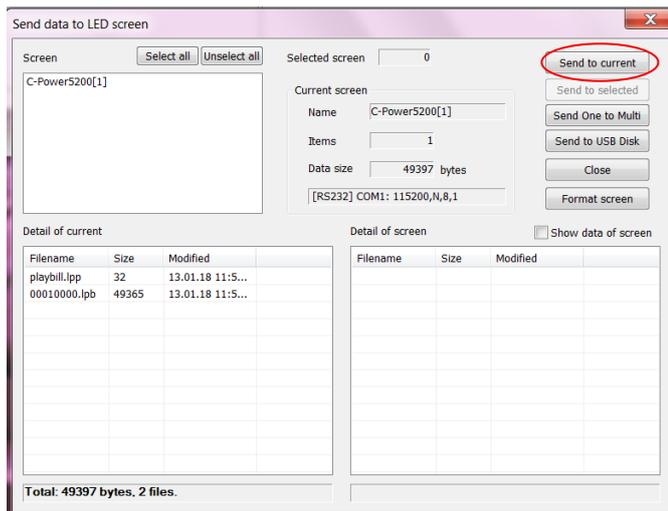
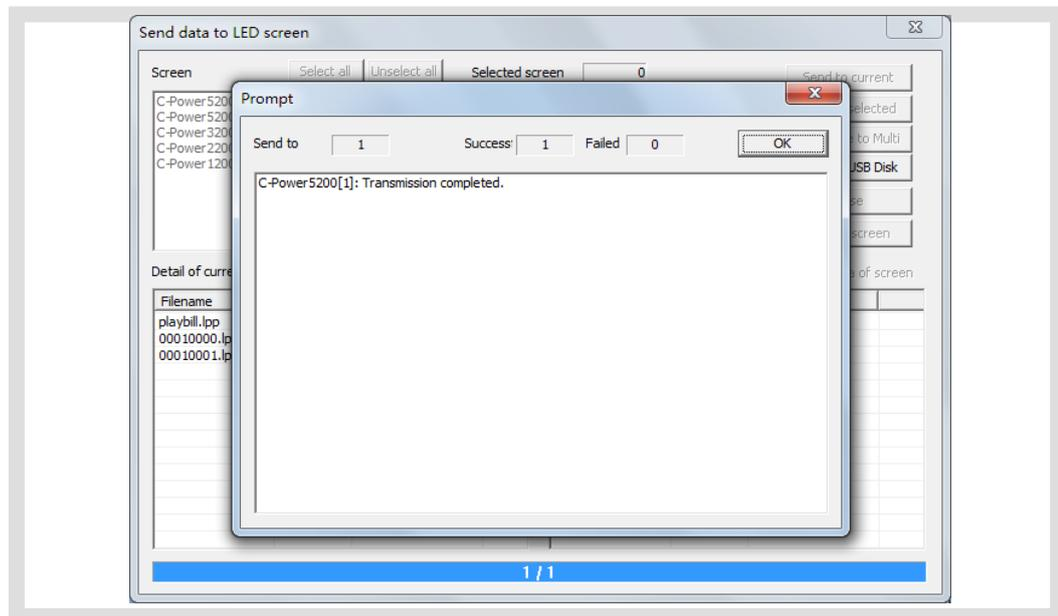

Figure36 Dialog box of sending data
Figure37 Data sending completed
- 2) When the computer is connected to the controller, click “Send to current” or “Send to the selected”, the computer will send the data via the network or serial cable, as shown in Figure36 and Figure37.